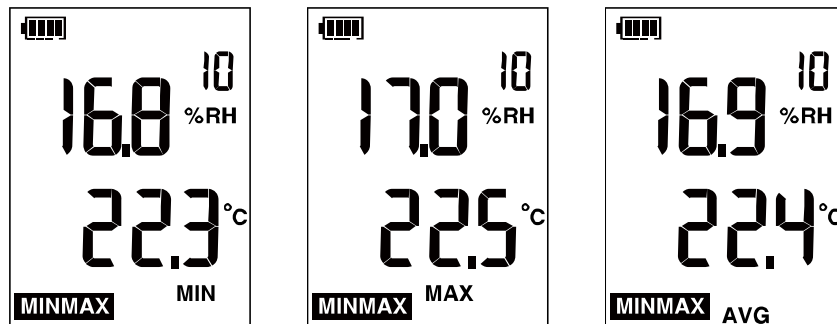

Figure 6. MIN/MAX/AVG Temperature
- **The maximum temperature**, **MAX** shows on the screen, as shown on the left in Figure 6.
- **The minimum temperature**, **MIN** shows on the screen, as shown in the middle in Figure 6.
- **The average temperature**, **AVG** shows on the screen, as shown on the right in Figure 6.